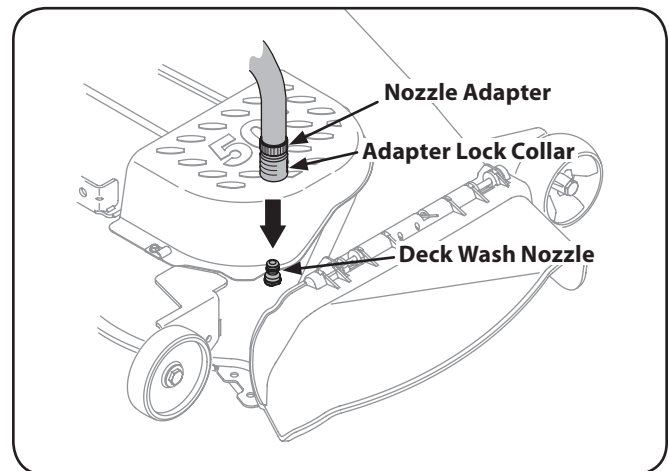

Figure 6-1
3. Pull back the lock collar of the nozzle adapter and push the adapter onto one of the deck wash nozzles at either end of the mower deck. Release the lock collar to lock the adapter on the nozzle. See Figure 6-1 .